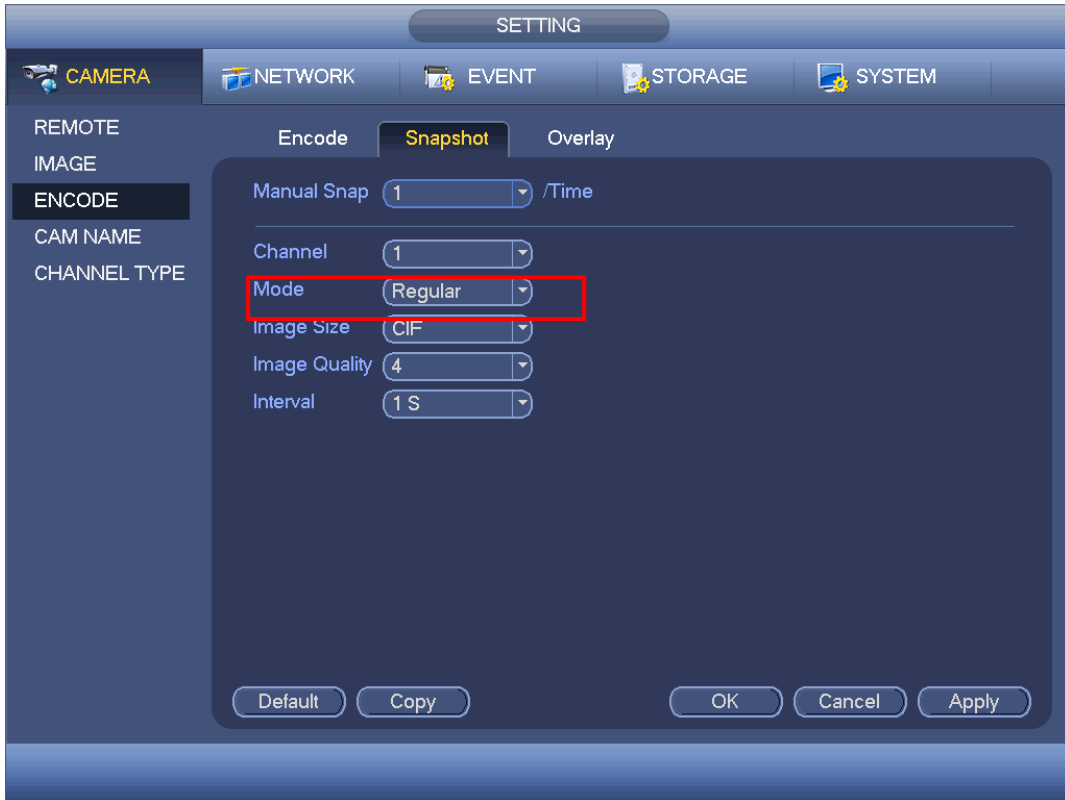

Figure 4-177
- In main menu, from Setting->Camera->Encode->Snapshot interface, here you can input snapshot mode as regular, size, quality and frequency. See Figure 4-177.